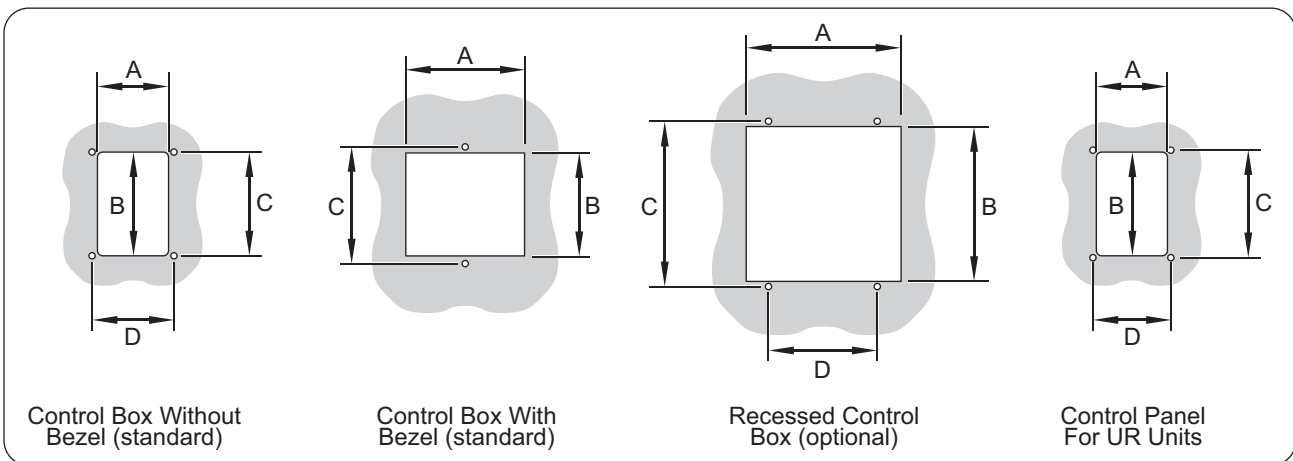

Figure 26. Control Box Assembly Cutout Dimensions
2. Cut the appropriate opening for the control box (see Figure 26 for size requirements).